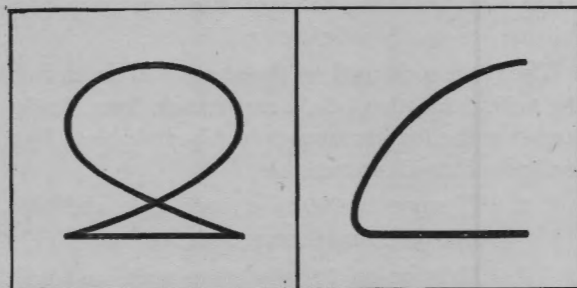

Figure 4 SC/SK-3. Figure of eight determines when calibration pips are 2,000 yards apart.
bration so that a stationary figure of eight is observed. Lock control. (See fig. 4 SC/SK-3.)
8. Release lock on calibrate minimum (LL) and adjust position of range step with (LL) so that the top of the second marker just begins to drop. (See fig. 4 SC/SK-4.)
9. Crank (TT) so that counter reads 20,000 yards.
10. Release lock and adjust calibrate maximum (JJ) so that the top of the eleventh marker begins to drop.
12. Check the 20,000-yard setting. If either (JJ) or (LL) is changed, it affects the other. Keep checking until no further adjustment is necessary; lock both controls.
13. Turn (CC) to RECEIVE.